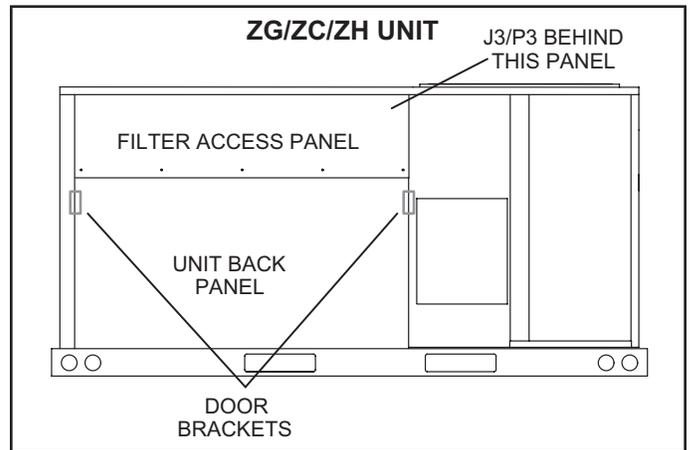

FIGURE 2
- 2 - Remove and discard unit back panel. Retain screws and two door brackets which secure panel. See FIGURE 2.